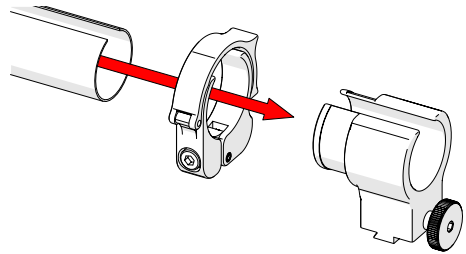

Fig. 107 - Slide tube around mount
2. Slide the clamp around the tube first and then slide the tube around the outside of the cable management dovetail mount (*Fig. 107*). Align the zipper opening and the cable management dovetail mount opening.